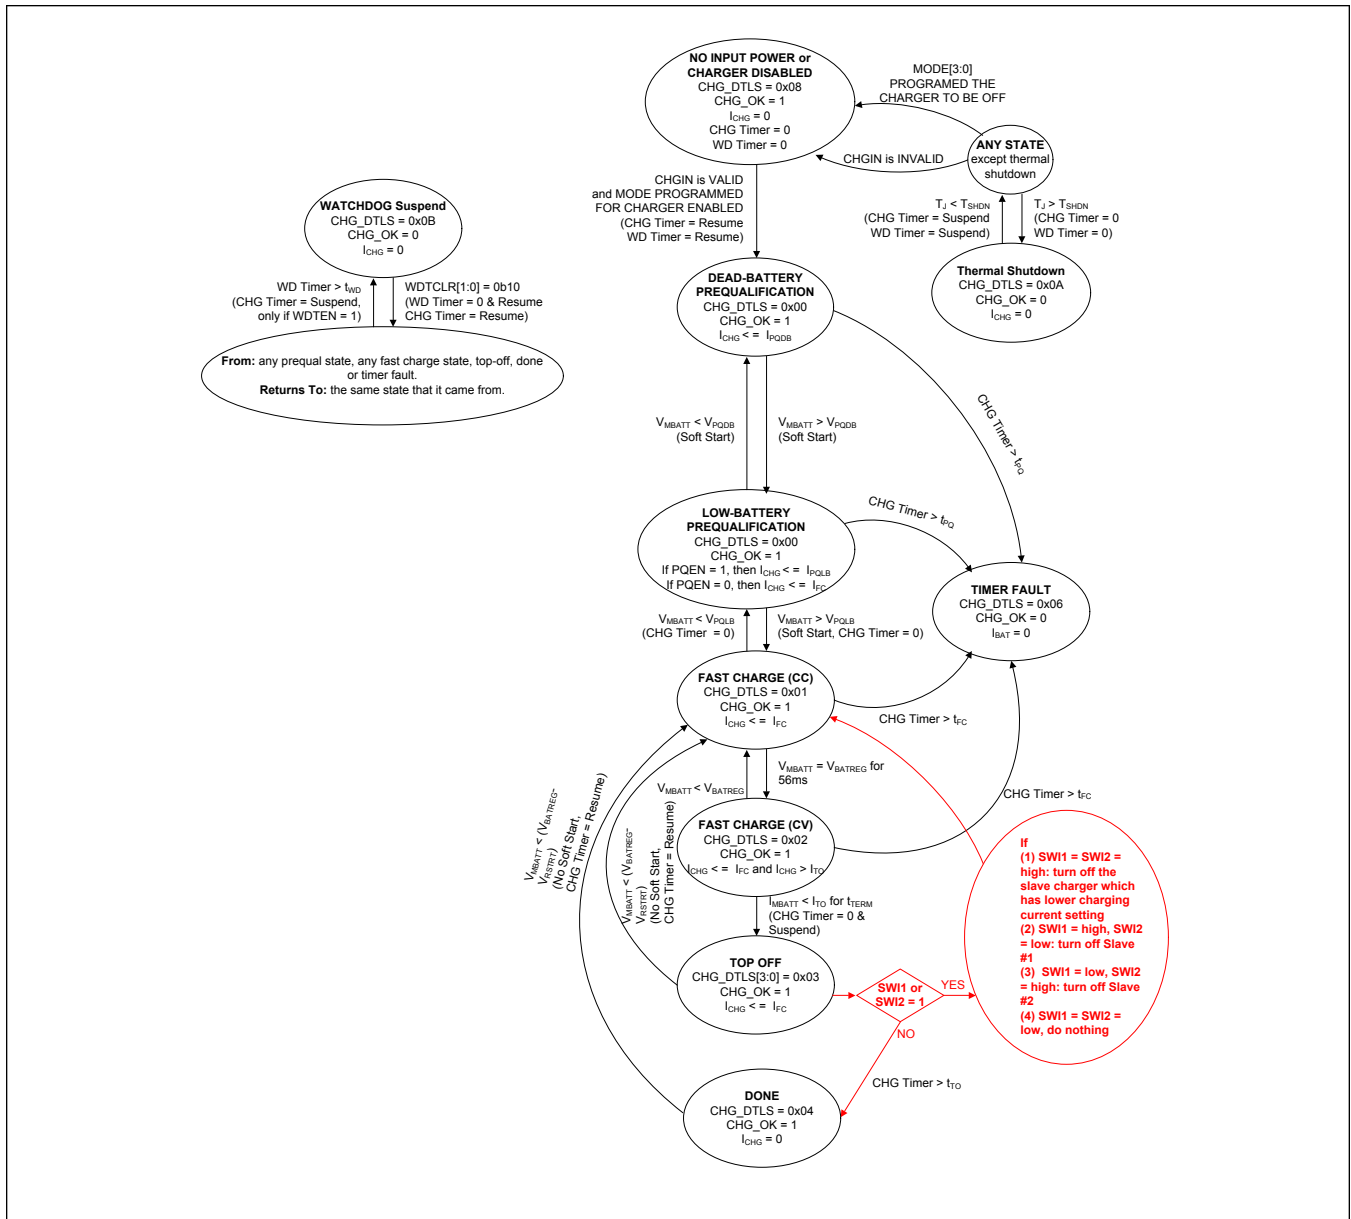
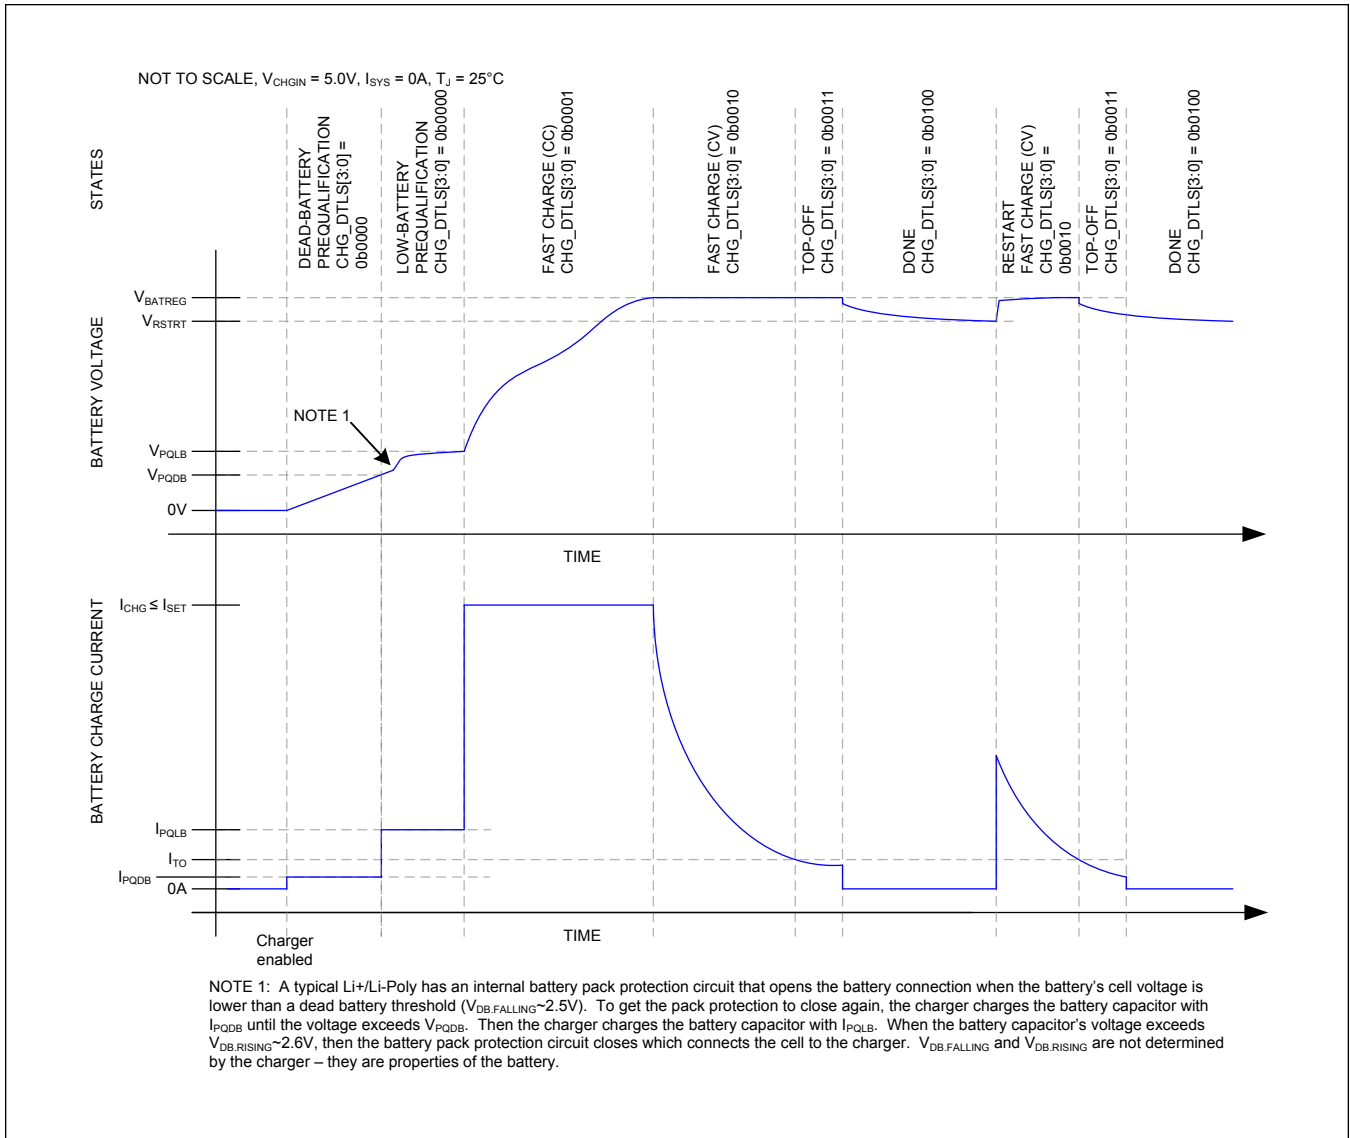
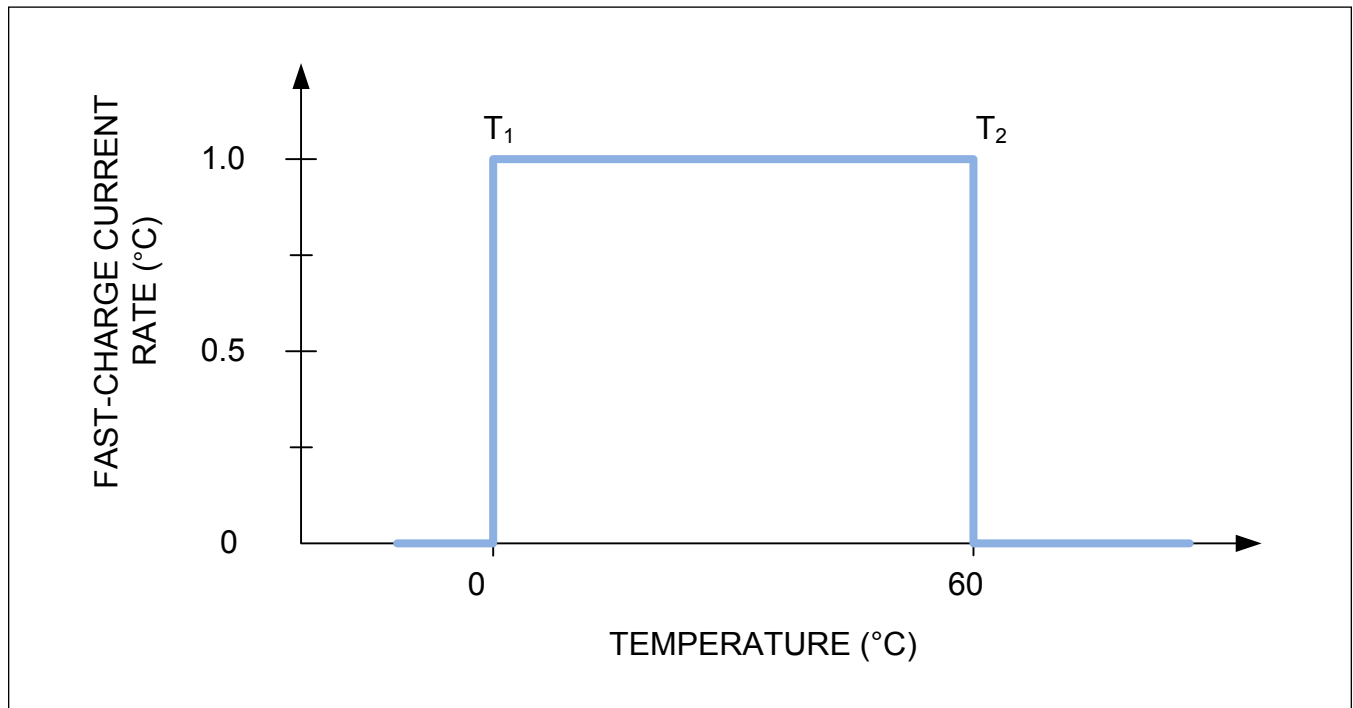

Figure 3. Charger State Diagram
Figure 4. Li+/Li-Poly Charge Profile
Figure 10. Thermal Shutdown Regions
DETBATB is tied to the ID pin of the battery pack. If DETBATB is pulled below 80% of V_{IO} pin voltage, this is an indication that the main battery is present and the battery charger starts upon valid CHGIN. If DETBATB is left unconnected or equal to V_{IO} voltage, this indicates that the battery is not present and the charger does not start upon valid CHGIN, see Figure 4. DETBATB is internally pulled to BATT through an external resistor. The DETBATB status bit is valid when BATT is not present.
The IC utilizes several charging states to safely and quickly charge batteries as shown in Figure 3. An exaggerated view of a Li+/Li-Poly battery is shown in Figure 4 when there is no system load and the die and battery are close to room temperature as it progresses through the following charge states:
As shown in Figure 3, the dead-battery prequalification state occurs when the main-battery voltage is less than V_{PQDB} . After being in this state for t_{SCIDG} , a CHG_I interrupt is generated, CHG_OK is set, and CHG_DTLS is set to 0x00. In the dead-battery prequalification state, charge current into the battery is I_{PQDB} .
As shown in Figure 3, the fast-charge constant current (CC) state occurs when the main-battery voltage is greater than the low-battery prequalification threshold and less than the battery regulation threshold ($V_{PQLB} < V_{BATT} < V_{BATREG}$). After being in the fast-charge CC state for t_{SCIDG} , a CHG_I interrupt is generated, CHG_OK is set, and CHG_DTLS = 0x01.
As shown in Figure 3, the topoff state can only be entered from the fast-charge CV state when the charger current decreases below I_{TO} for t_{TERM} . After being in the topoff state for t_{SCIDG} , a CHG_I interrupt is generated, CHG_OK is set, and CHG_DTLS = 0x03. In the topoff state, the battery charger tries to maintain V_{BATREG} across the battery and typically the charge current is less than or equal to I_{TO} .
As shown in Figure 3, the battery charger enters its done state after the charger has been in the toff state for t_{TO} . After being in this state for t_{SCIDG} , a CHG_I interrupt is generated, CHG_OK is cleared, and CHG_DTLS = 0x04.
The battery charger provides both a charge timer and a watchdog timer to ensure safe charging. As shown in Figure 3, the charge timer prevents the battery from charging indefinitely. The time that the charger is allowed to remain in each of its prequalification states is t_{PQ} . The time that the charger is allowed to remain in the fast-charge CC and CV states is t_{FC} , which is programmable with FCHGTIME. Finally, the time that the charger is in the toff state is t_{TO} , which is programmable with TO_TIME. Upon entering the timer fault state, a CHG_I interrupt is generated without a delay, CHG_OK is cleared, and CHG_DTLS = 0x06.
In the timer fault state, the charger is off. The charger can exit the timer fault state by programming the charger to be off and then programming it to be on again through the MODE bits. Alternatively, the charger input can be removed and reinserted to exit the timer fault state (see the "ANY STATE" bubble in the upper right of Figure 3).
The battery charger provides both a charge timer and a watchdog timer to ensure safe charging. As shown in Figure 3, the watchdog timer protects the battery from charging indefinitely in the event that the host hangs or otherwise cannot communicate correctly. The watchdog timer is disabled by default with $WDTEN = 0$. To use the watchdog timer feature, enable the feature by setting $WDTEN$. While enabled, the system controller must reset the watchdog timer within the timer period (t_{WD}) for the charger to operate normally. Reset the watchdog timer by programming $WDTCLR = 0x01$.
In the IC, the thermistor is monitored to turn off the charger during battery temperature fault events. The battery regulation voltage and current limits are not adjusted. As shown in Figure 3, the thermal shutdown state occurs when the battery charger is in any state and the junction temperature (T_J) is higher than the device's thermal shutdown threshold (T_{SHDN}) or below 0°C . When T_J is close to T_{SHDN} , the charger folds back the input current limit to 0A so the charger and inputs are effectively off as shown in Figure 10. Upon entering this state, CHG_I interrupt is generated without a delay, CHG_OK is cleared, and CHG_DTLS = $0x0A$.